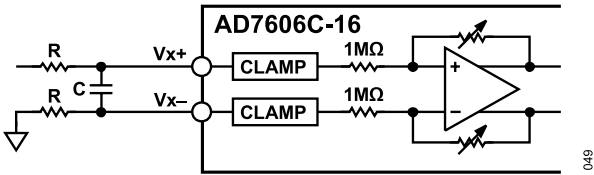

Figure 77. Input Resistance Matching on the Analog Input of the AD7606C-16 for Single-Ended Ranges (Vx- Tied to Ground)
It is recommended to place a series resistor on the analog input channels to limit the current to ± 10 mA for input voltages greater than ± 21 V. In an application where there is a series resistance (R) on an analog input channel, Vx+, it is recommended to match the resistance (R) with the resistance on Vx- to eliminate any offset introduced to the system, as shown in Figure 77. However, in software mode, a per channel system offset calibration removes the offset of the full system (see the System Offset Calibration section).